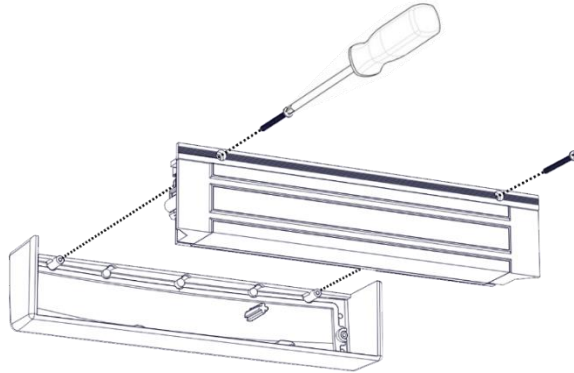

Figure 1. Removing the Cover Screws
2. Using a Phillips screwdriver, REMOVE the two (2) screws securing the cover, as shown in Figure 1, “Removing the Cover Screws.”